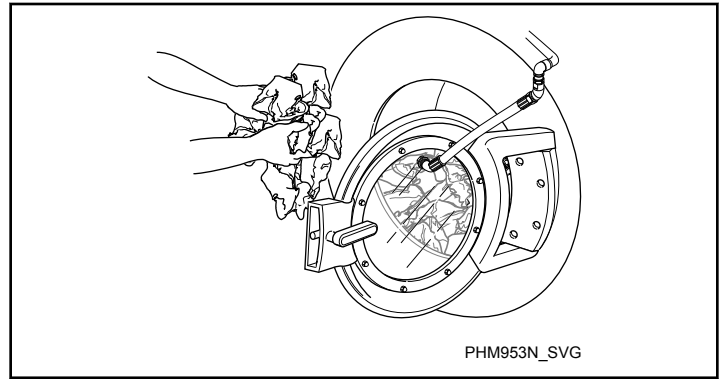

Figure 46
3. Load to capacity whenever possible. **DO NOT OVERLOAD.** Refer to *Figure 46*.